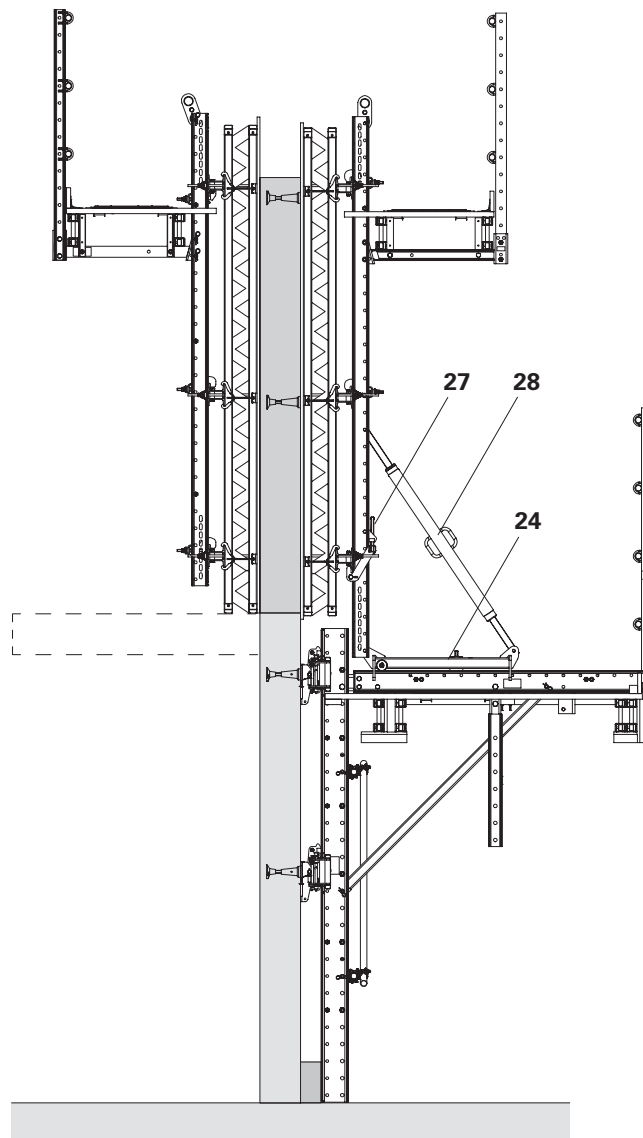

Fig. C3.09
1. Move the carriage (24) to the concreting position.
2. Align the formwork vertically and horizontally with the formwork spindle (28) and the Height Adjustment Unit SRU (27).
- (Fig. C3.09)